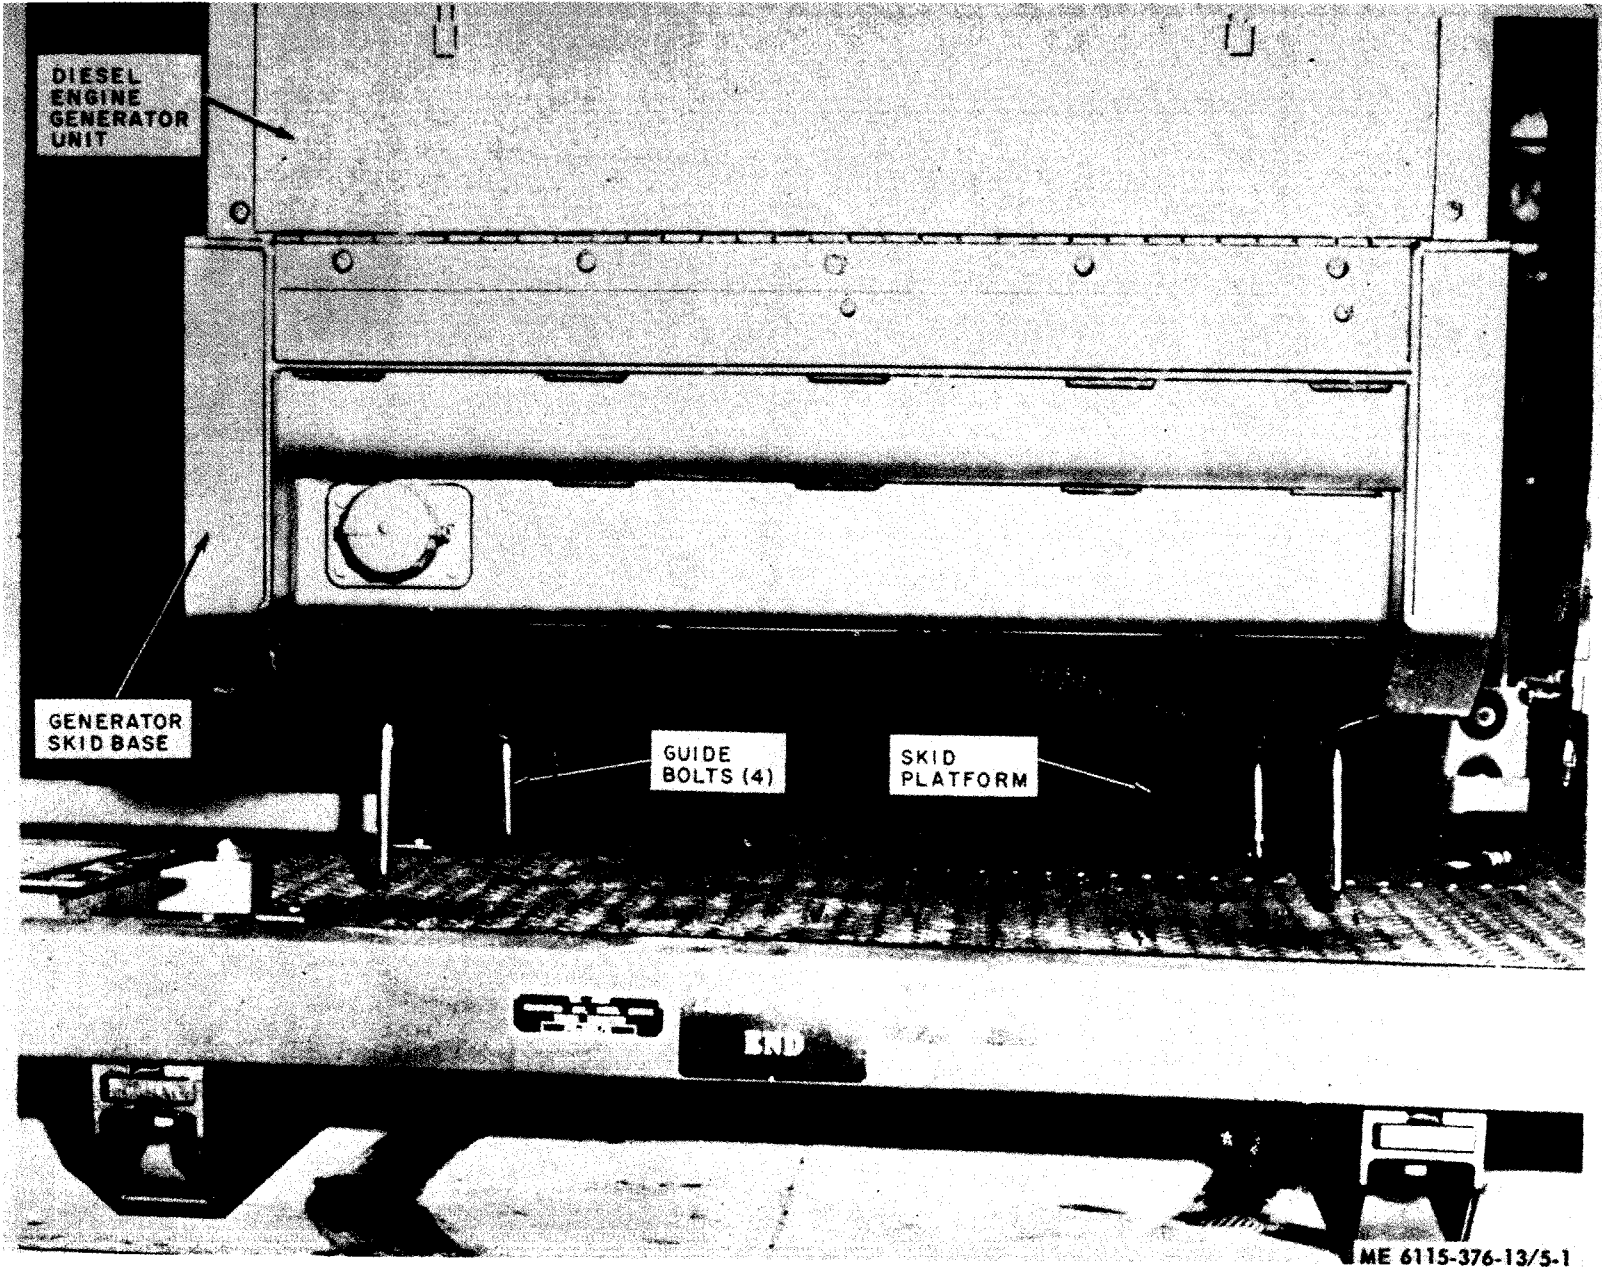

Figure 5-1. Lowering of DE generator unit into skid platform.
(1) See that truck is parked on a level area and that skid platform is free of loose hardware.
(2) Using lifting device attached to lifting ring of DE generator unit, lower and guide DE generator unit to approximately six inches above skid platform.
(3) Insert the four guide bolts (fig. 5-1) through DE generator unit skid base. Aline the four guide bolts over skid platform mounting holes.
(4) Slowly lower DE generator onto skid platform. Place nuts and washers on guide bolts and tighten securely.
(5) Install distribution box, portable distribution boxes, fuel cans, fire extinguishers, portable accessory box onto their respective mounting bases. Install power cable to DE generator and distribution box. Install cable reels and hold-down rods.